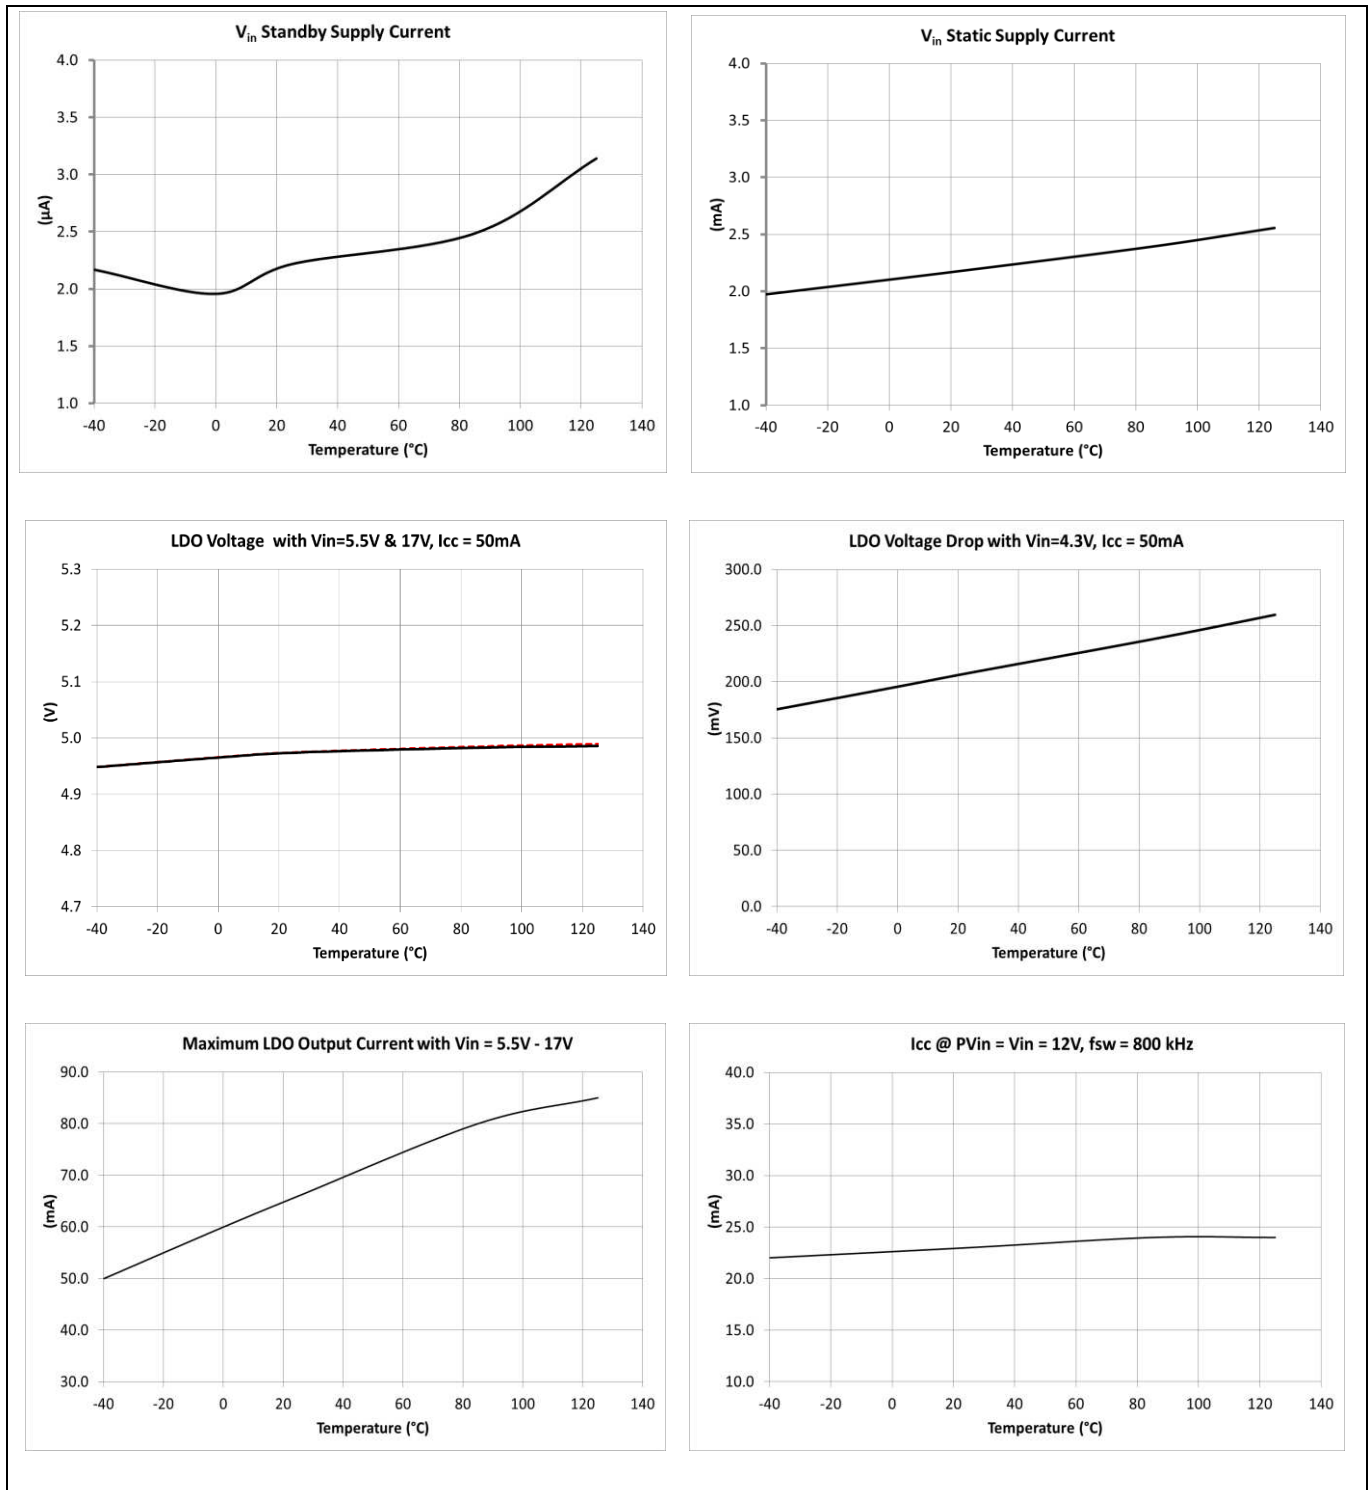

Figure 6 Typical operating characteristics (set 1 of 3)
- When using the internal LDO with 5.5 V ≤ Vin ≤ 17 V, it is recommended to check the required VCC bias current for the operation above 1.6 MHz, to ensure that it does not exceed the LDO output current capability as shown in Figure 6. With the increase of fsw, the resulting I_{CC} is also increased mainly due to the increase of the gate charge that is proportional to fsw. In Figure 6, the typical I_{CC} at PVin = Vin = 12 V and fsw = 800 kHz has been provided, which can be used to estimate the I_{CC} at other fsw.